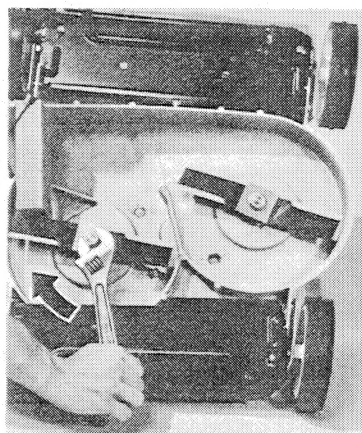

FIGURE 24A
6. When replacing sharpened blade on shoulder of inner insulating washer, make sure cutting edges of the blade are closest to ground. Place outer insulating washer over shoulder of the inner washer, sandwiching blade in between. Now place blade spacer and the blade nut on the shaft. Position wood block to keep shaft from turning and then securely tighten blade nuts as shown in Figures 24A and 24B. (If square blade spacer turns with nut, place a second wrench on spacer to keep shaft from turning).